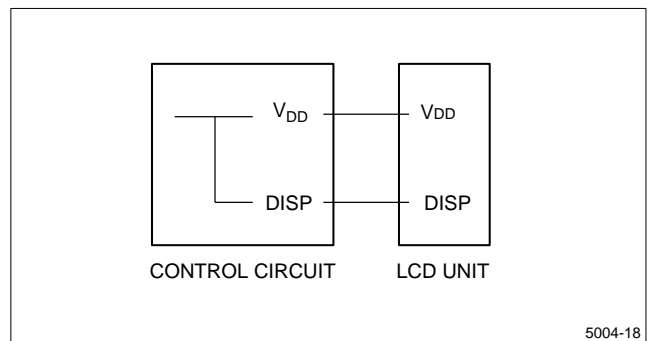

Figure 16. Without DISP Control
2. Connection of DISP (pin number 4), refer to Figure 16.